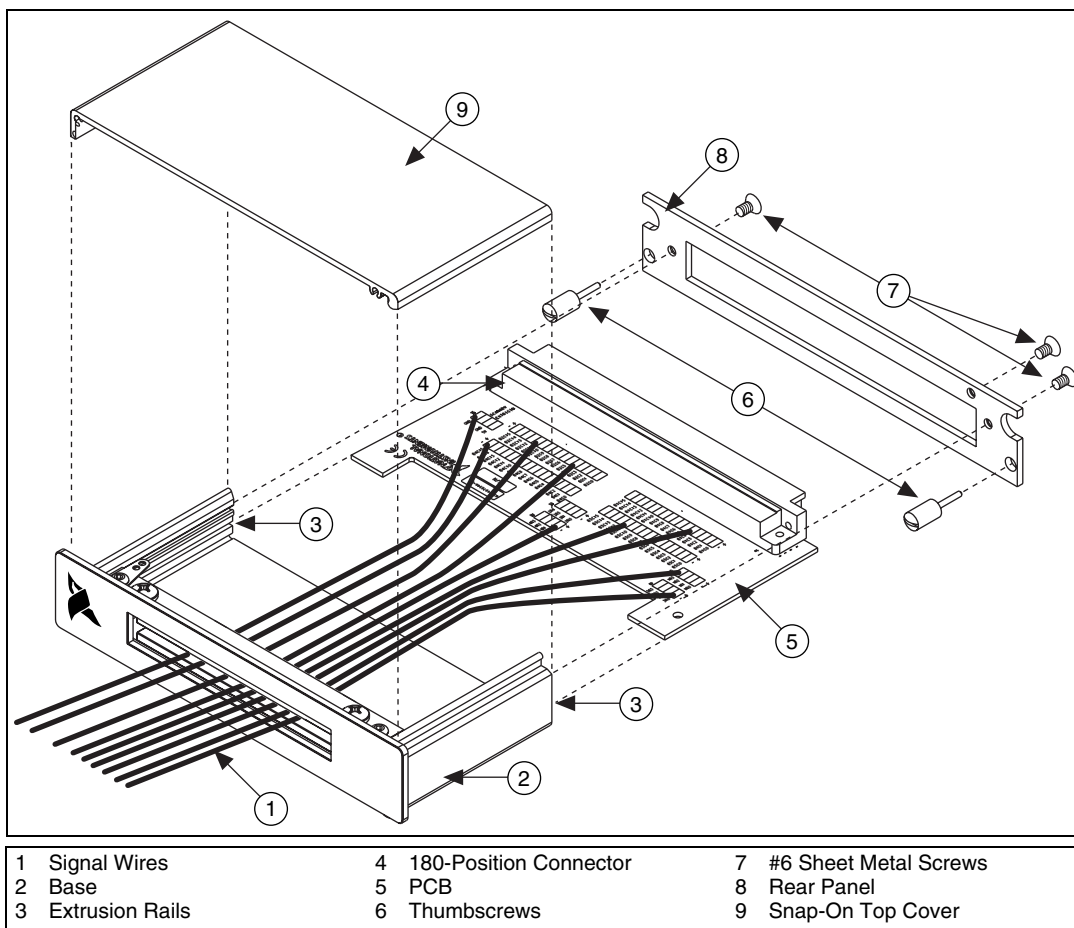

Figure 5. SCXI-1384K Custom Terminal Block Final Assembly
2. Pull your signal wires at least one foot through the strain-relief opening on the front panel assembly as shown in Figure 5.
Refer to Figure 5 while following these steps: